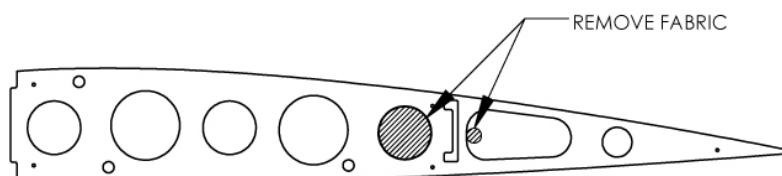

Figure 2, Wing Tip Fabric
2. Remove fabric from the wing tip ribs as shown in Figure 2 (use a soldering iron to open a 1.0 inch diameter hole directly aft of the rear spar, use a razor blade to open all other holes).